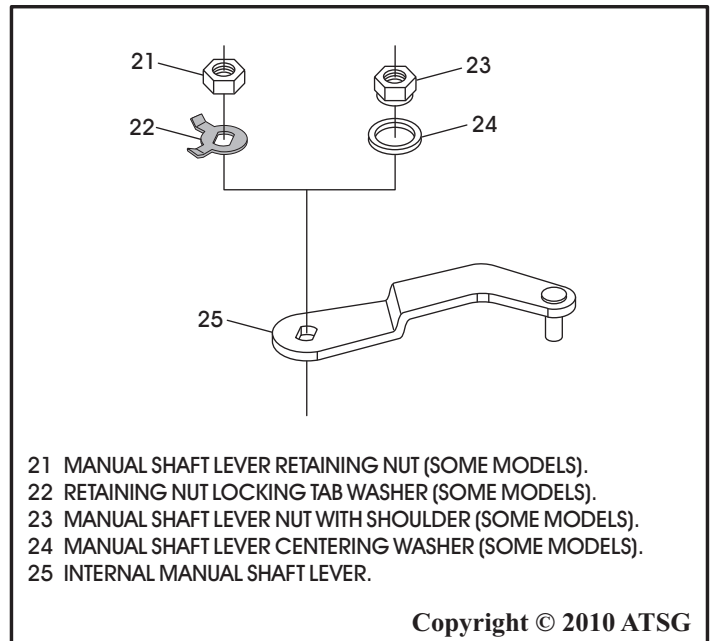

Figure 204
84. Some models use a locking tab washer and some models use a self locking nut with a centering washer below the nut. The models with the self locking nut have a shoulder on the nut that faces down toward the "centering" washer, as shown in Figure 204.